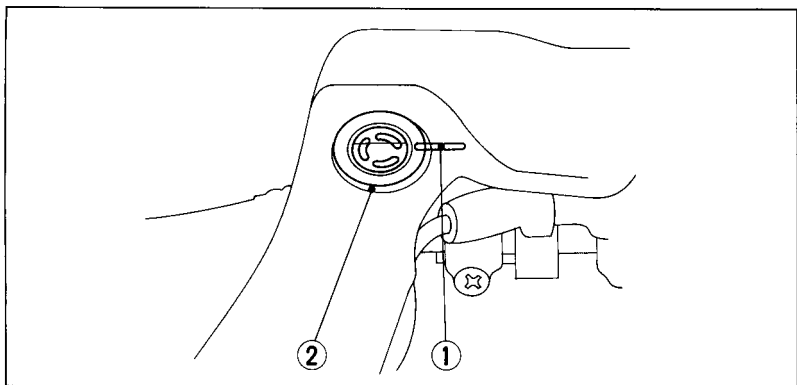

Fig. 4-25 (1) Lower level mark (2) Inspection window
Brake fluid must be added to the reservoir (Fig. 4-25) whenever the fluid level approaches the lower level mark (1). Use only DOT 3 or 4 brake fluid and have it added by an authorized Honda dealer.